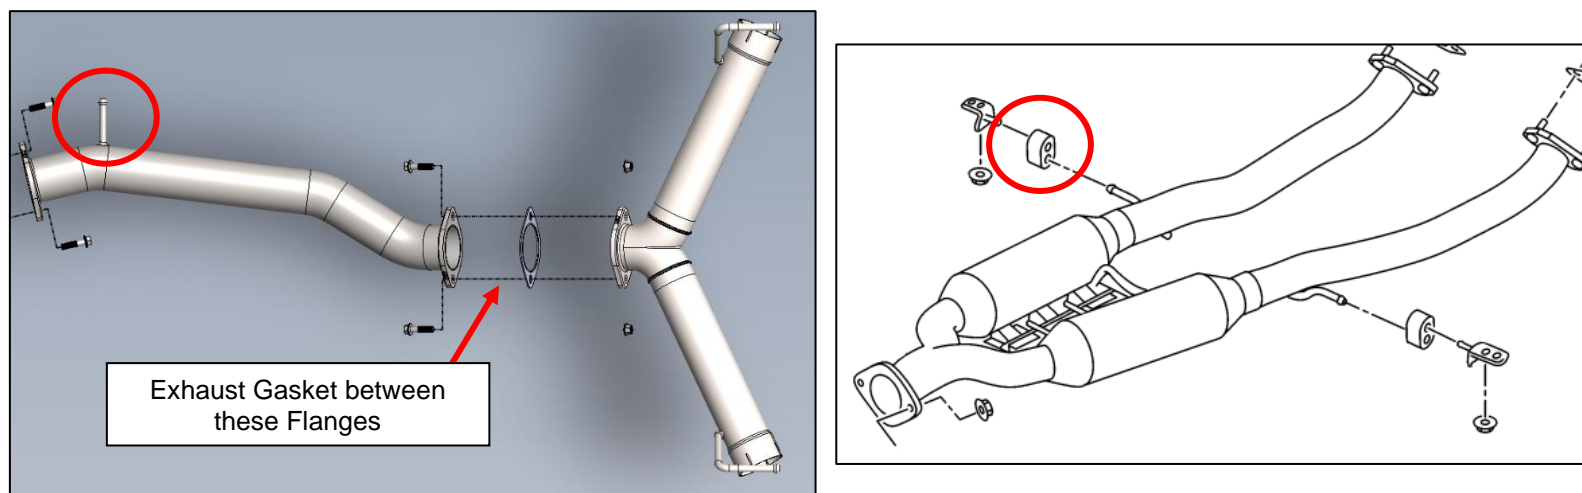

Figure 3
6. Locate the Mid-Pipe, (1) one Exhaust Gasket, (2) two M10 Bolts and (2) two M10 Nuts. Place the Mid-Pipe in the OE Exhaust Hanger and join the flanged end to the Axle-Back with an Exhaust Gasket in between them. Loosely secure them together with an M10 Bolt and Nut on each side of the flange. *Figure 3*.